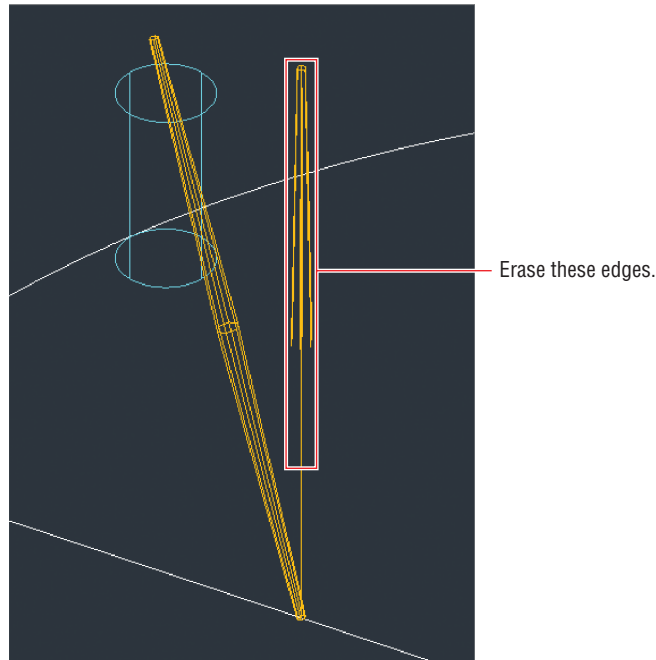

FIGURE 17.24 Erasing the edges extracted earlier
9. Zoom out and select the Erase tool in the Modify panel. Select the edges you extracted from the mast in the previous section and the vertical mast line (see Figure 17.24) and press Enter.